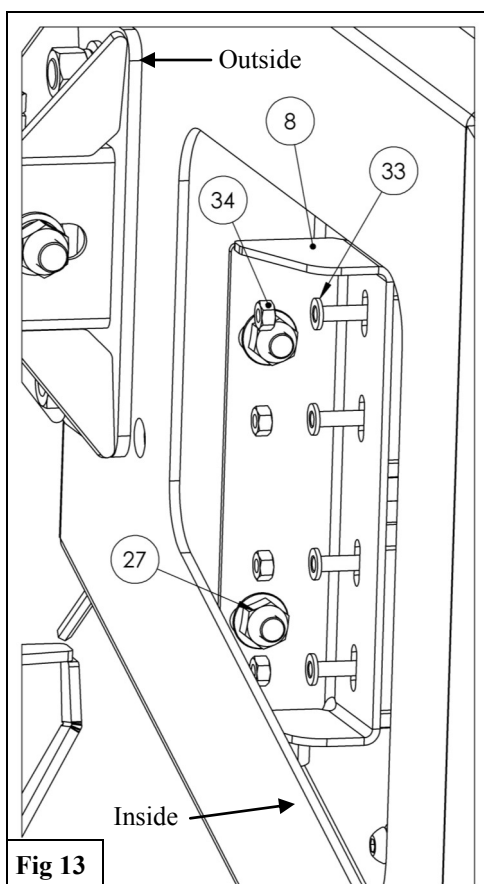

Fig 13
14. Install the Rubber Bumper Assembly to the Tire Carrier (2) using the supplied M10 Hardware. See Figures 13 and 14.